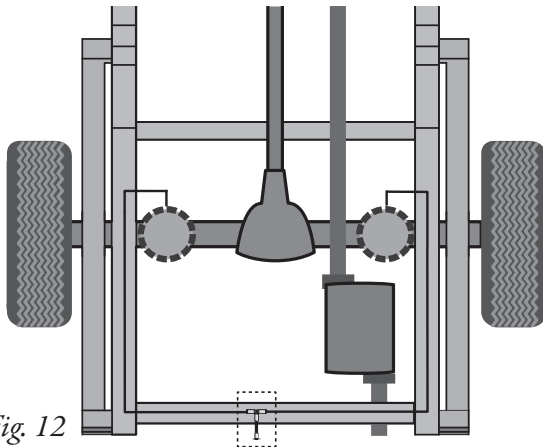
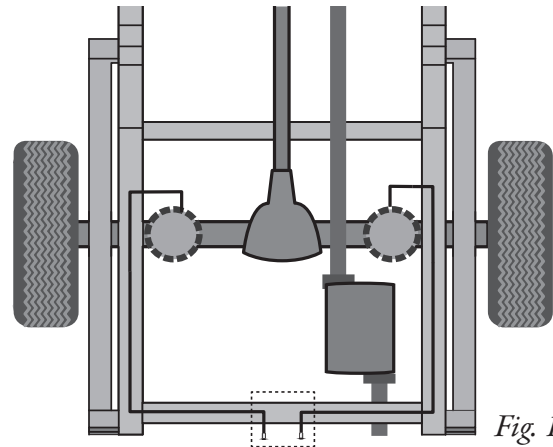

Fig. 12
Fig. 13
1. A single-path air line installation is recommended for vehicles that typically have even weight distribution (Fig. 12). If weight in the vehicle varies from side to side and unequal pressures are needed to level the load, use a dual-path installation. For dual-path air line installations, eliminate the tee fitting (M) and route separate air lines for both air springs (Fig. 13).